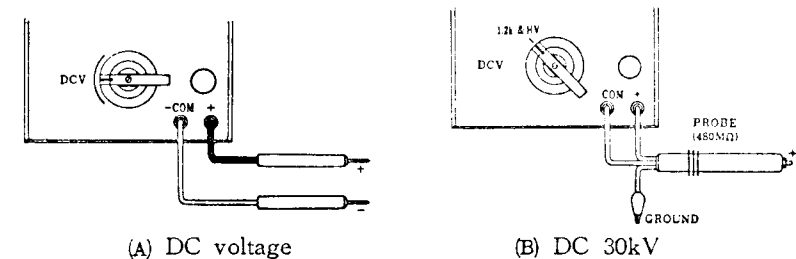

Fig. 5
Fig. 5 (A) and (B) illustrate how the test leads are connected for DC voltage measurement. For the (B) connection of an HV probe, the range switch should be positioned at DC-1.2k & HV, and reading is noted on the black scale just below the mirror marked DCV•A.